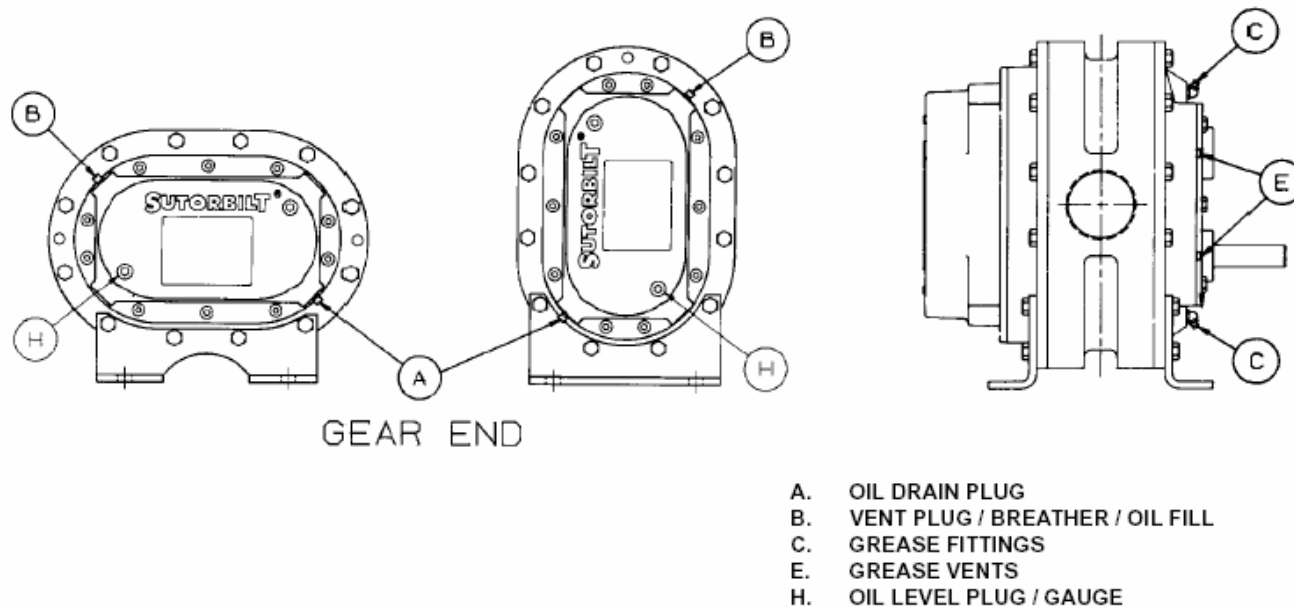

FIGURE 3-1 - LUBRICATION
**When changing mounting configuration, it may be necessary to reposition vent plug (B), and drain plug (A). Refer to Figure 3-1, page 17, for correct location.**
Re-grease bearings every 500 hours of operation. Lubricate each bearing through the grease fittings located at C in FIGURE 3-1 (2 places). When re-greasing, the old grease will be forced out of the vents (E in FIGURE 3-1). To prevent damage to seals, these vents must be open at all times.
Refer to FIGURE 3-1, page 17. Remove the oil level plug (H) and the square head vented oil fill plug (B) from the gear cover. Add oil to the gear case until oil drips out of the oil level hole (H). Secure plugs in their correct location.
Refer to FIGURE 3-1, page 17. Remove the breather (B) from the gear cover. Add oil to the gear case until oil reaches the center of the oil level gauge (H). Secure breather (B) in the gear cover.